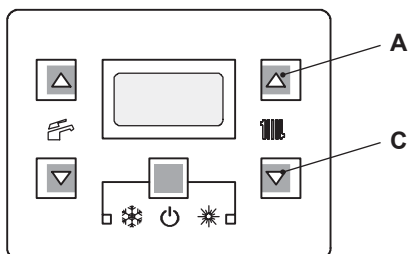

Figure 9.7
- 2 To move through the parameters press c.h. set keys (A or C Figure 9.7)
- 5 To change the parameters press c.h. set keys (A or C Figure 9.7).